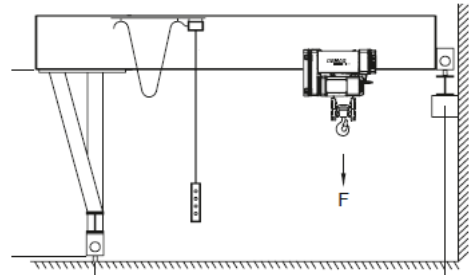

Figure 4
7. [5.5] Consider the operation of a overhead crane, Figure 4 below, with the capability of moving horizontally in two directions (longitudinal and transversal) in addition to the vertical (lifting) direction, with the following load and operation parameters: